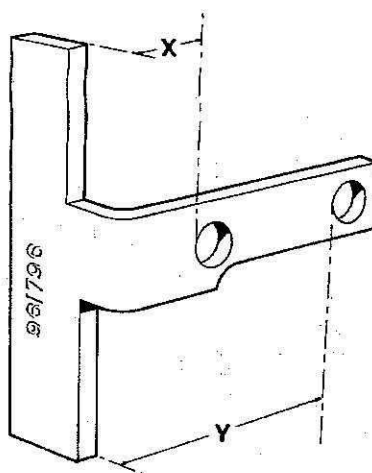
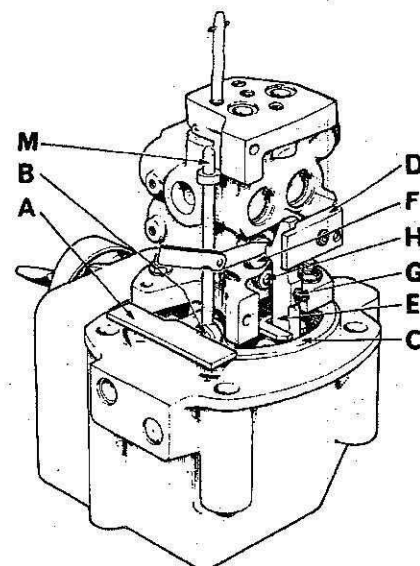
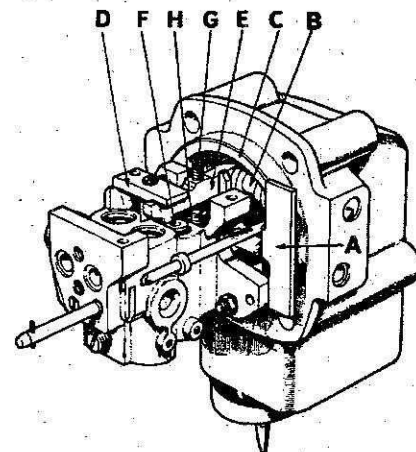

Fig. 184—Adjusting gage (David Brown part No. 961796) for hydraulic control mechanism. Dimension "X" is 0.437; dimension "Y" is 1.580.
Fig. 185—Using adjusting gage to check setting of abutment plate (D); refer to text for procedure.
Fig. 186—Using adjusting gage to check setting of traction control valve screw in rocker lever. Refer to text for procedure. Refer to Fig. 185 for legend.
After bolting control valve assembly to bracket, turn selector dial to T.C.U. position. Engage inner hole of adjusting gage (see Fig. 184) on rocker shaft pin (B—Fig. 185) and hold base of gage against boss on bracket as shown at A in Fig. 185. With abutment plate (D) tightly bolted in position, check clearance between rocker
With selector dial at T.C.U. position, engage outer hole of adjusting gage (Fig. 184) on rocker shaft pin (B—Fig. 186) and hold base of gage against boss on bracket as shown in Fig. 186. Loosen locknut on traction